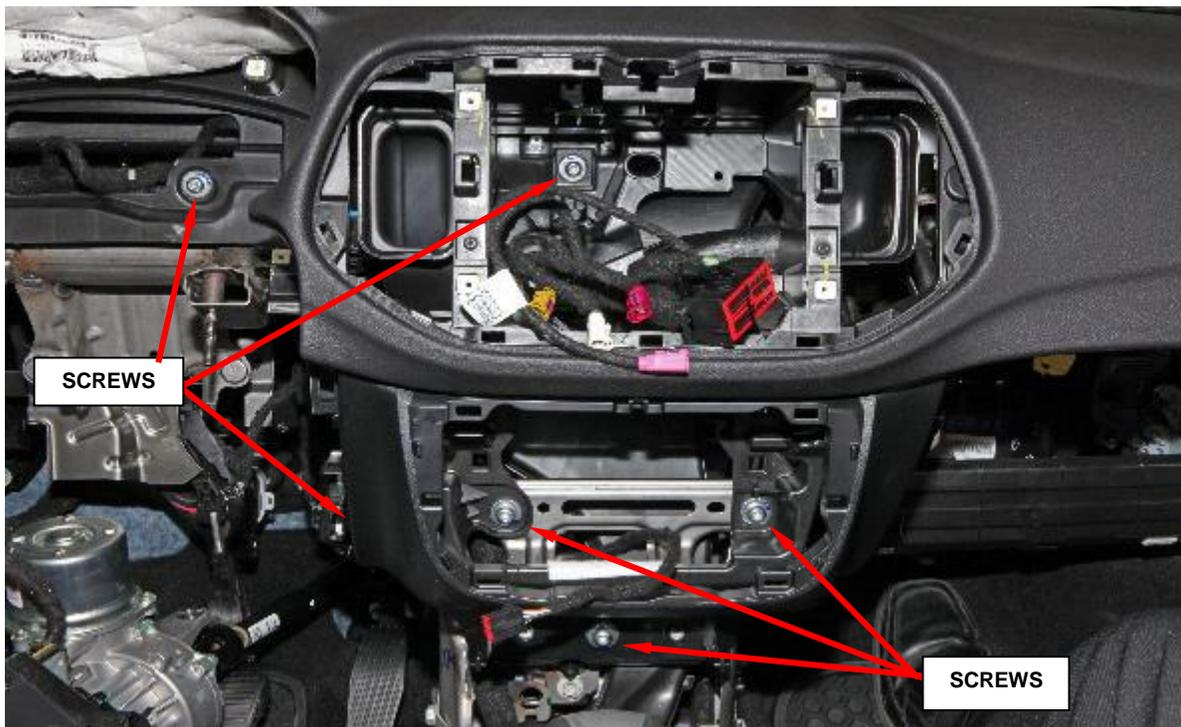

Figure 25 - Instrument Panel Mounting Screws
62. Remove the large screw located in the instrument cluster opening (Figure 25).
63. Remove the large screw located on the left side of the center trim (Figure 25).
64. Remove the large screw located in the center below the VFCCS opening (Figure 25).
65. Remove the two large screws located in the A/C and Heater controls opening (Figure 25).
66. Remove the large screw located in the radio opening (Figure 25).